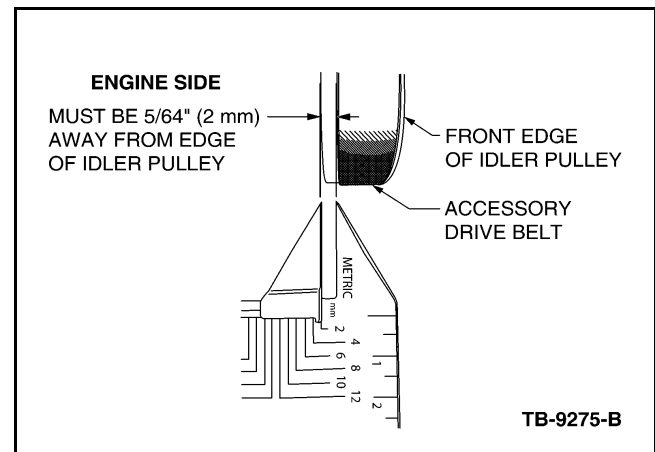

Figure 1 - Article 09-7-7
2. Inspect for FEAD belt clearance on the idler pulley. A properly aligned belt will have an approximate  $3/32$ " (2 mm) space behind the belt on the idler pulley. (Figure 1)